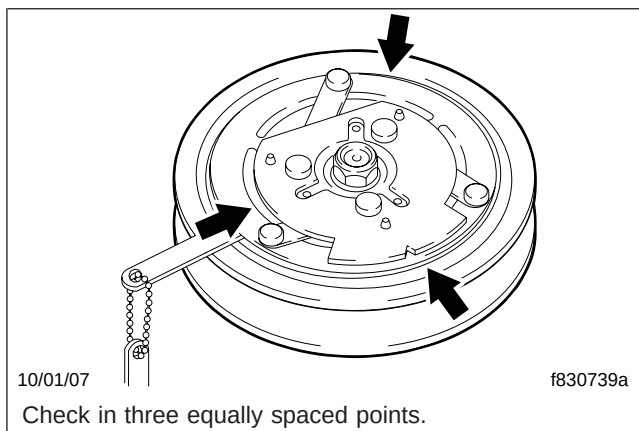

Fig. 11, Checking the Clutch Clearance
4. Using a feeler gauge, check that the clutch clearance is 0.02 to 0.03 inch (0.4 to 0.8 mm). See Fig. 11. Adjust the clearance by gently tapping down on the front plate at the high spots, or gently prying up at the low spots.